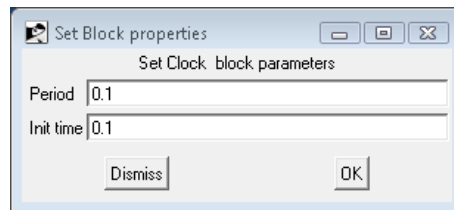

Figure 5.11: The `clock` block properties.
12. Single click on the `Clock` block. Its properties window appears. Leave them untouched, and press `OK`. You can do the same on the `Sine` block. Figure 5.11 and 5.12 show these windows.
- The system works like a synchronous control system, with a sampling frequency of 0.1s (see Figure 5.11).